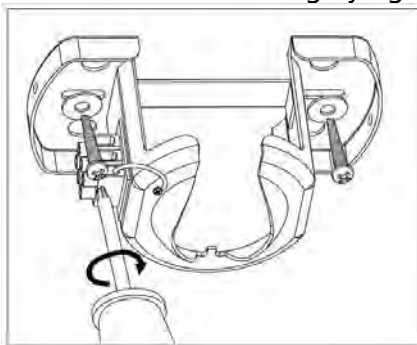

Fig 2
- (1) For wooden ceiling, fix the bracket on the beam using 1.5 inches wooden threaded screws. (Fig 2)